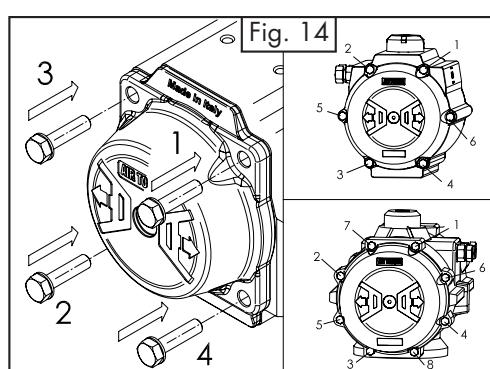

Fig. 14
- Fit end caps onto the body (50), verifying that the o-ring remains in the groove.
- Insert the cap screws (13) and tighten each only partially. Complete tightening by making 1-2 turns for each screw in the sequence shown in figure 14 until tightening is completed. See the table for screw tightening torque.